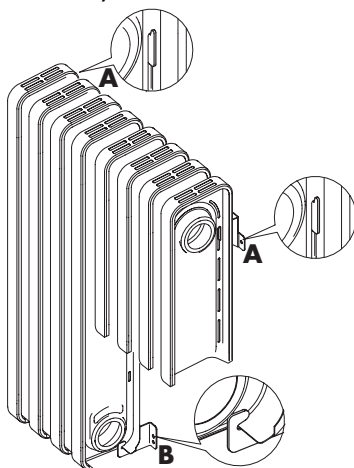

fig.5
5. Fix the brackets "A" onto the wall. Then hang the radiator (fig.5).
7. Fit the radiator to the 2 brackets "A" (fig. 5). Insert bracket "B" in the middle of the radiator base as shown in figure 5. Fix the bracket "B" to the pre-drilled hole. Your radiator is now wall mounted.